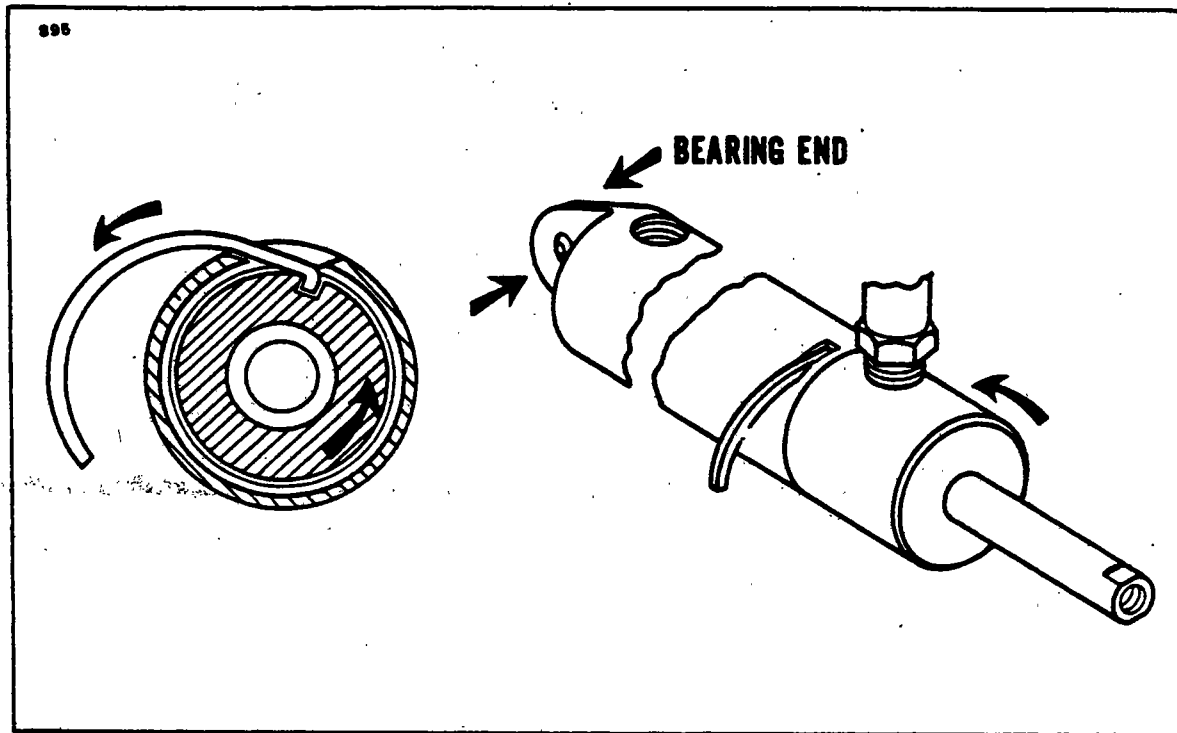
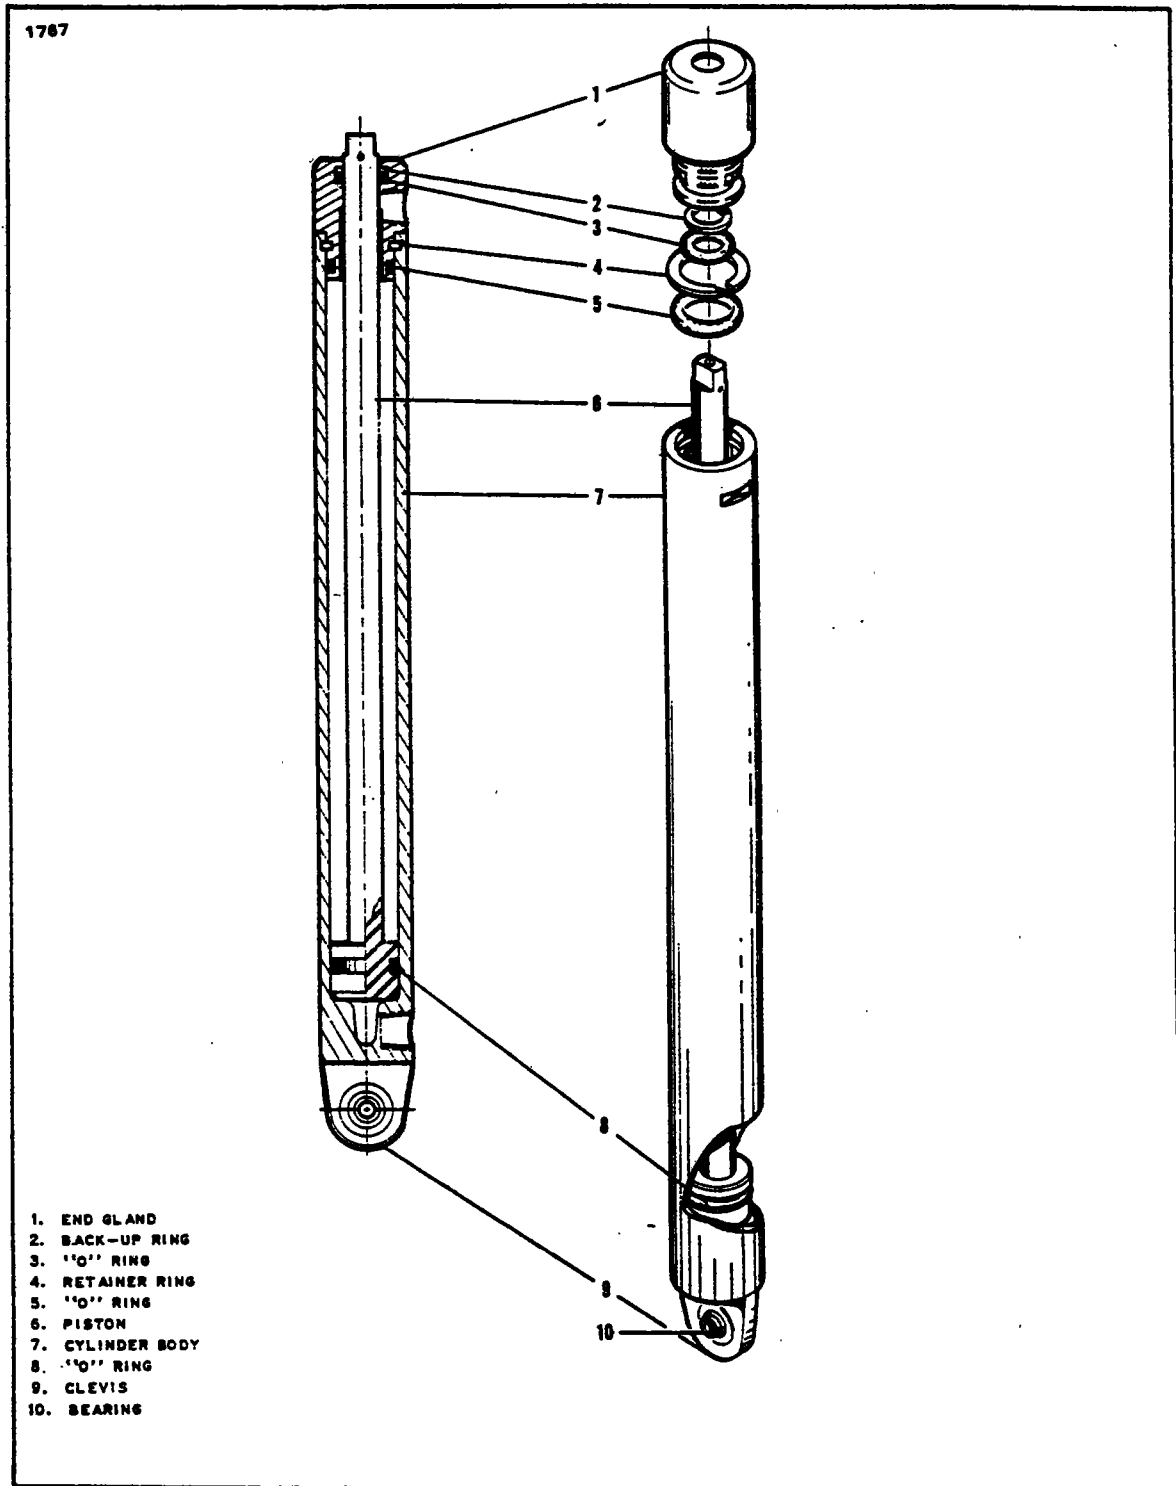

Figure 6-9. End Gland Locking Device
Figure 6-10. Main Gear Actuating Cylinder
**6-25. DISASSEMBLY OF MAIN GEAR ACTUATING CYLINDER. (Refer to Figure 6-10.)**
- a. With the cylinder removed from the airplane, push the piston rod (6) (by hand) toward the clevis (9) to remove oil from the unit.
- b. Put clevis (9) only in a soft jaw vise and clamp against the clevis bearing (10).
- c. If no pipe fitting is installed in the port of the end gland (1), install a fitting (1/8 - 27) into the port. This fitting need not be tight as it will be used for leverage only.
- d. Rotate the gland (with use of fitting) until the end of the gland lock ring (4) shows in the slot in the cylinder body (7). Reverse rotation of the gland to allow the lock ring to move out of the slot. (Refer to Figure 6-9.) (It may be necessary to give the ring an assist to start out of the slot. If so, insert a strong wire pick or other available tool in the slot to lift up the end of the ring and then rotate gland.)
- e. Pull the piston (6) and end gland from the cylinder.
**6-27. ASSEMBLY OF MAIN GEAR ACTUATING CYLINDER. (Refer to Figure 6-10.)**
- a. Install O-ring (5) on the exterior of the end gland (1).
- b. Install O-ring (3) and back-up ring (2) in the interior of the end gland.
- c. Install O-ring (8) on the body of the piston assembly.
- d. Lubricate the areas around the O-rings with hydraulic fluid, park-o-lube or vaseline, slide the end gland on the piston rod and the piston into the cylinder housing (7).
- e. Insert the hook end of a new lock ring (4) (P/N 755 997) in the slot in the cylinder body (7) and slot in the end gland (1). Rotate gland to completely wrap lock ring into assembly.